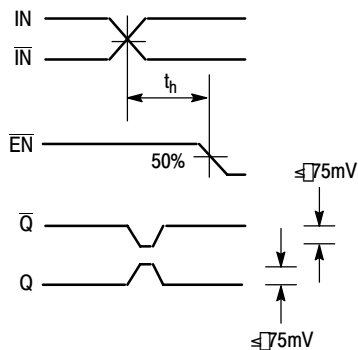

Figure 4. Hold Time
18. The hold time is the minimum time that $\overline{EN}$ must remain asserted after a negative going IN or a positive going $\overline{IN}$ to prevent an output response greater than $\pm 75\text{ mV}$ to that IN/ $\overline{IN}$ transition (Figure 4).